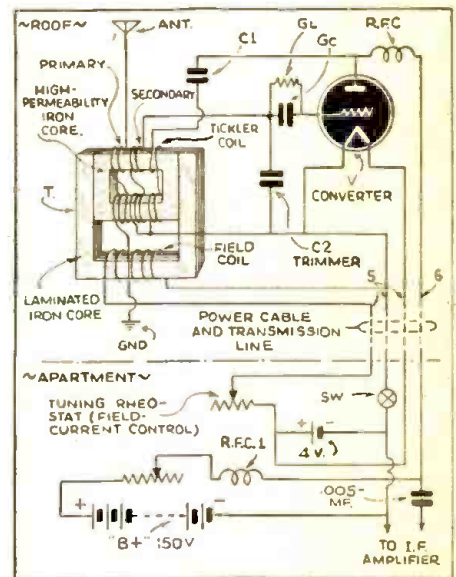

Fig. 1. Elementary converter (roof unit).
This current is sent through the turns of a standard A.F. choke of low resistance, of which the iron core has partly been "cut away" (see Fig. 1), leaving us, in principle, an electromagnet of U-form. Between the "poles" of our "electromagnet"—pardon me, A.F. choke (marked as unit 2 in Fig. 1), has been inserted an R.F. transformer with iron core of similar design as used at present in car-radio receivers. The primary of
Fig. 1. (A) Generation of secondary electrons. (B) The auxiliary grid *s* supports the formation of secondary electrons and suppresses leakage. (C) Arrangement of the electrodes in the new tube. (D) Arrangement of the socket of the new tube. (E) wiring of the tube as a television intermediate-frequency amplifier.